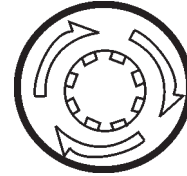

Figure 57. Emergency Stop Button
1. To stop the engine in the event of an emergency, **PUSH** the emergency stop button (Figure 57) inward. This button is located on the engine operating panel, see Figure 5.